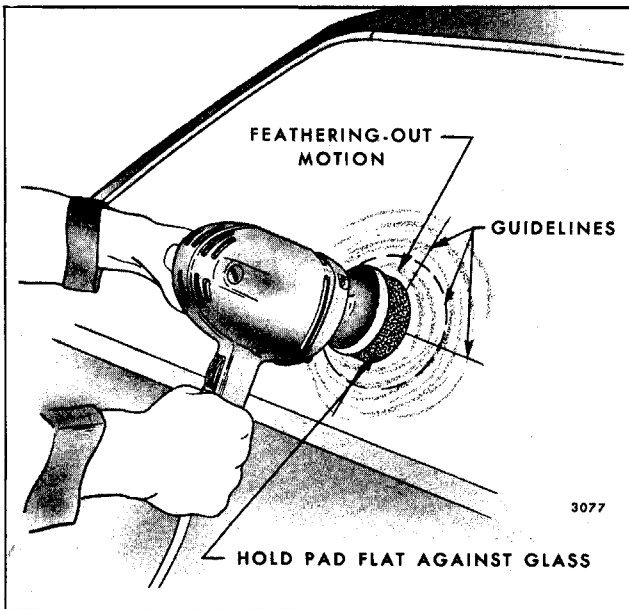

Fig. 11-1-Minor Glass Scratch Removal
of glass with marking crayon or equivalent. Draw other lines directly behind scratches to serve as guides in locating scratch during polishing (Fig. 11-1).
6. Using moderate, but steady, pressure, hold pad flat against scratched area of glass, and with a feathering-out motion, polish affected area as shown in Figure 11-1.
7. Cover sufficient area around scratch with a feathering-out motion as shown in Figure 11-1, to eliminate any possibility of a bull's-eye.